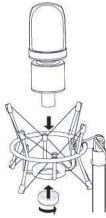

Fig. 5
2. Insert the microphone into the shock mount inner ring through the top and fasten it to the ring from below with a nut (Fig. 5).